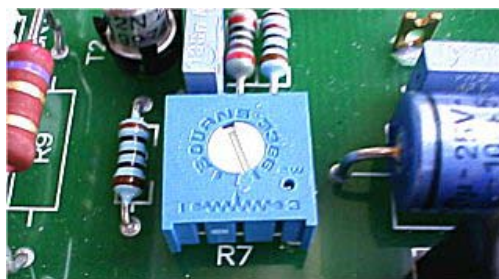

FIGURE 7.3.2
- Step 3:** Adjust slowly on the loader unit varistor R7 until the voltage between the measure points MP2 and MP3 become 14.3 ± 0.1 VDC. See figure 7.3.2